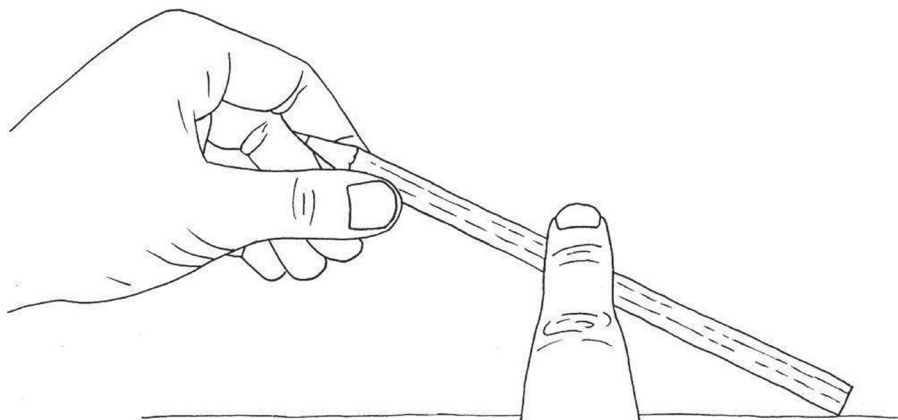

Figure 5
2. In Figure 5 the input force is at one end of the lever, and the fulcrum at the other end. How is a first-class lever different from this?